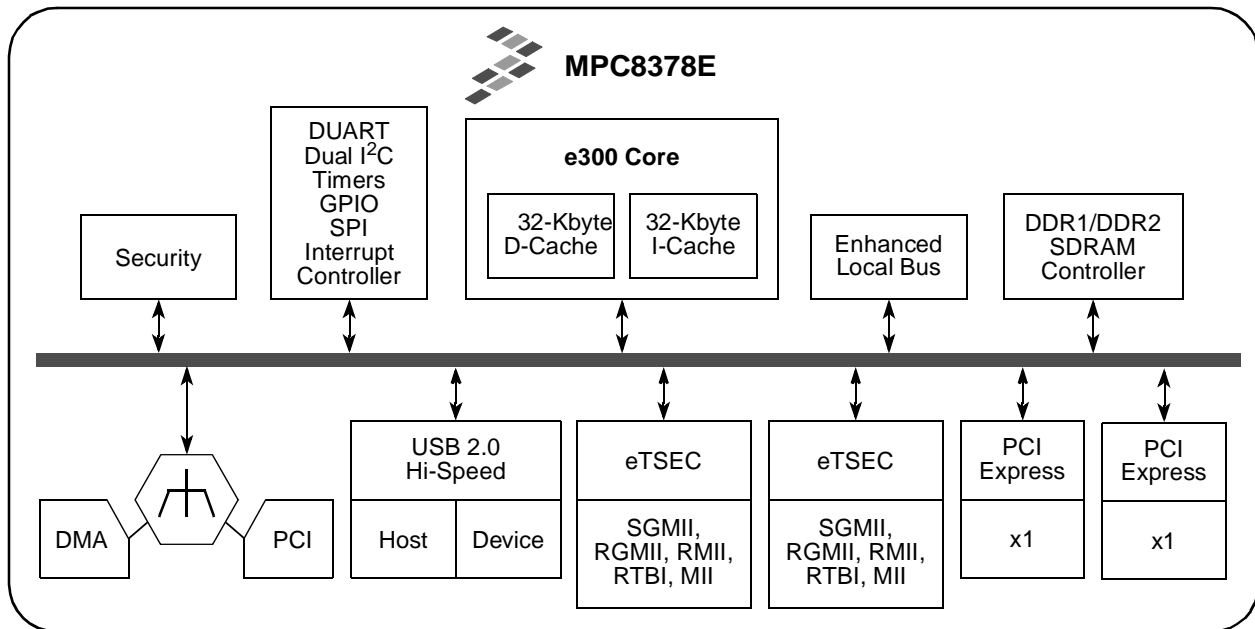

Figure 1. MPC8378E Block Diagram and Features
2.0 dual-role controller, a programmable interrupt controller, dual I2C controllers, a 4-channel DMA controller, an enhanced secured digital host controller, and a general-purpose I/O port. The block diagram of the MPC8378E is shown in Figure 1.